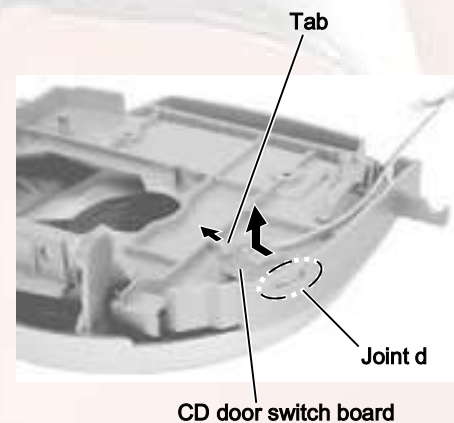

Fig.11
■Removing the CD door switch board (See Fig.11)